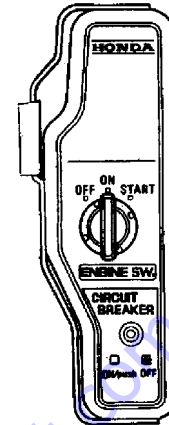

Figure 20. Engine ON/OFF Switch
3. Place the **Engine ON/OFF switch** (Figure 20) in the "ON" position.